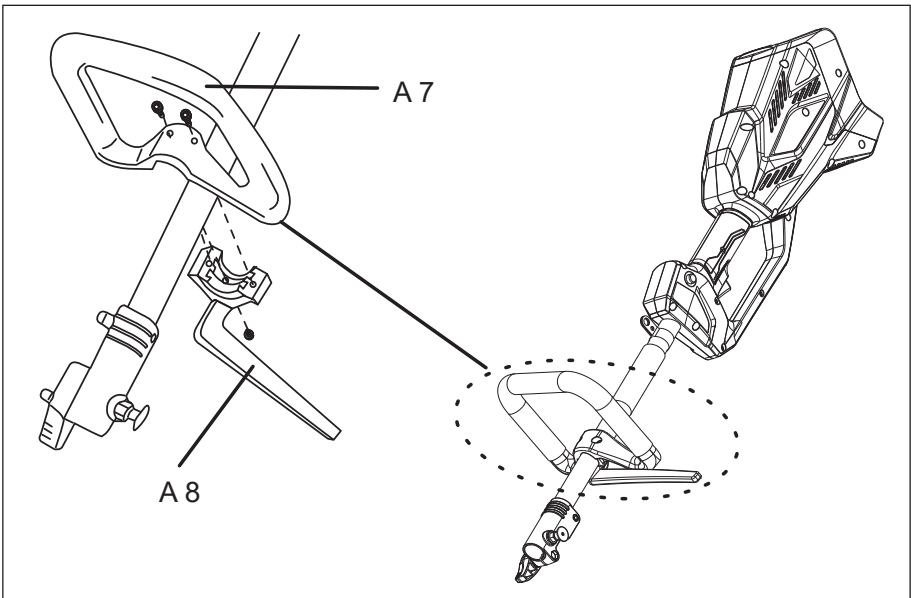

Fig. 1
- 3). Place the handle onto the shaft from the top and secure it with the longer screws. Tighten them with the hex key 4mm (F3). (See Fig. 1)